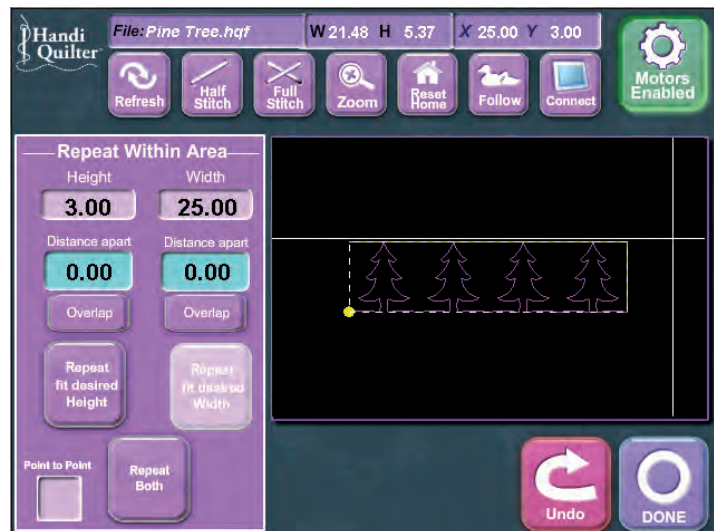

Figure 29
6. If the user only wishes to repeat in width, there is no need to enter anything in the “Height” box. Simply enter the desired width in the “Width” box and press the “Repeat Width” button (Figure 29). The same can be done for repeating only height using the repeat height button.